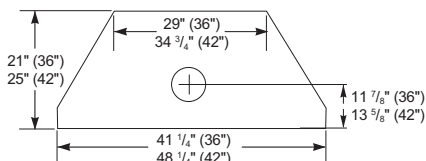

Figure 3 - Fireplace Top Dimensions
- If your fireplace is to be installed directly on carpeting, vinyl tile or any combustible material other than wood, it must be installed on a metal or wood panel extending the full width and depth of the fireplace (see Figure 3).